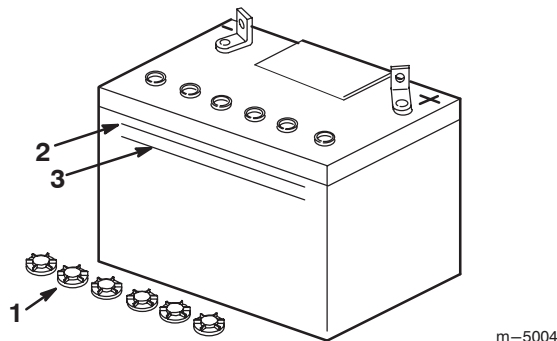

Figure 23
4. Look at the side of the battery. The electrolyte must be up to the Upper line (Fig. 23). Do not allow the electrolyte to fall below the Lower line (Fig. 23).
3. Remove the filler caps from the battery (Fig. 23).
4. Slowly pour distilled water into each battery cell until the electrolyte level is up to the Upper line (Fig. 23) on the battery case.
5. Wait five to ten minutes after filling the battery cells. Add distilled water, if necessary, until the electrolyte level is up to the Upper line (Fig. 23) on the battery case.